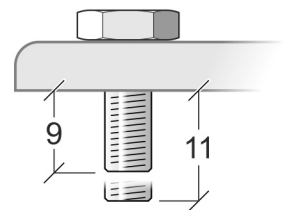

Figure 4. Bolt protrusion
1. Pass an M10 steel bolt or screw through a half-coupler type rigging clamp. See Figure 4. Check that the bolt will protrude minimum 9 mm / 0.35 in. and maximum 11 mm / 0.43 in. into the base of the fixture when tightened.